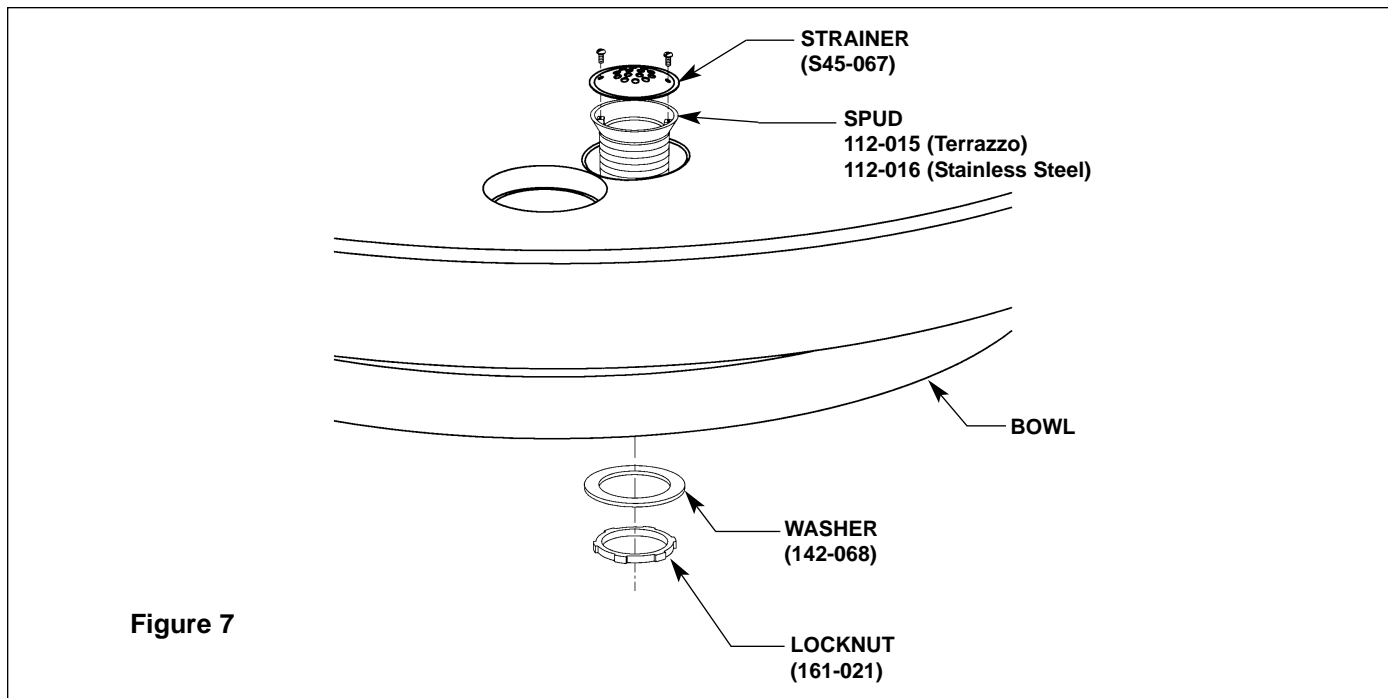

Figure 7
3. Position the bowl and pedestal assembly so that the bowl drain is in line with the trap or drain line (see Figure 6 at right and figure 7 on page 10).
4. Screw the drain spud part of the way into the drain to ensure correct alignment (see Figure 7 on page 10).
3. Screw the drain spud part way into the drain to ensure correct alignment (see Figure 7).
1. Secure drain spud with lock nut and washers as shown in Figure 7.